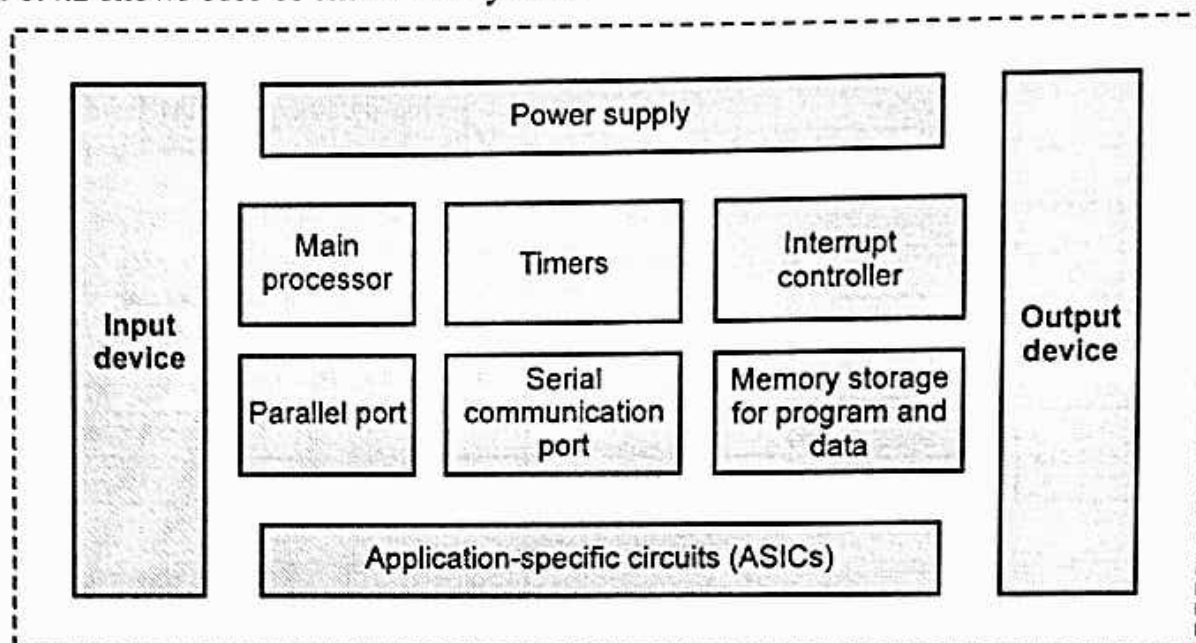

Fig. 1.4.2 : Embedded system hardware component
- Fig. 1.4.2 shows core of embedded system.